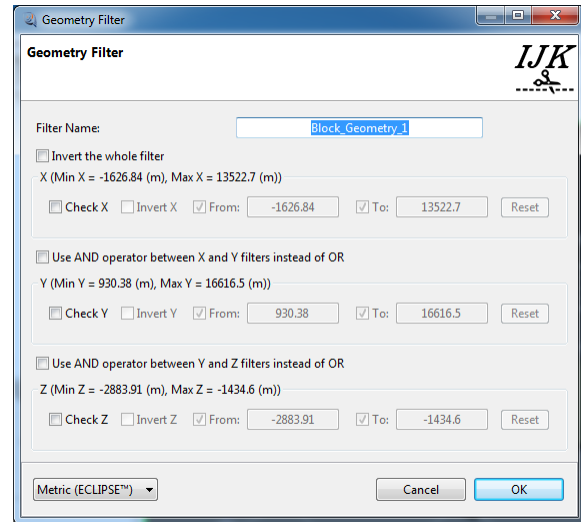
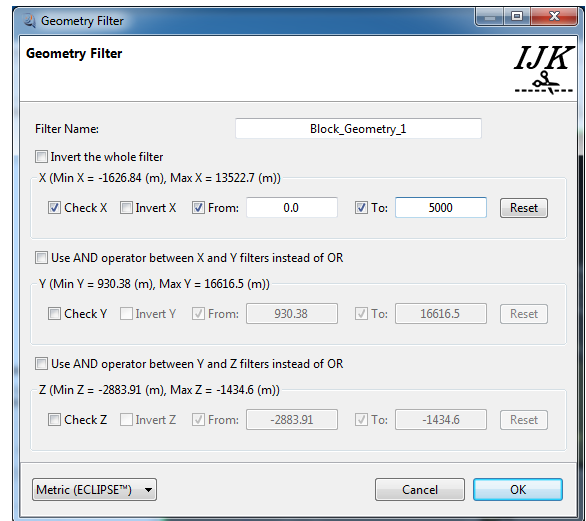
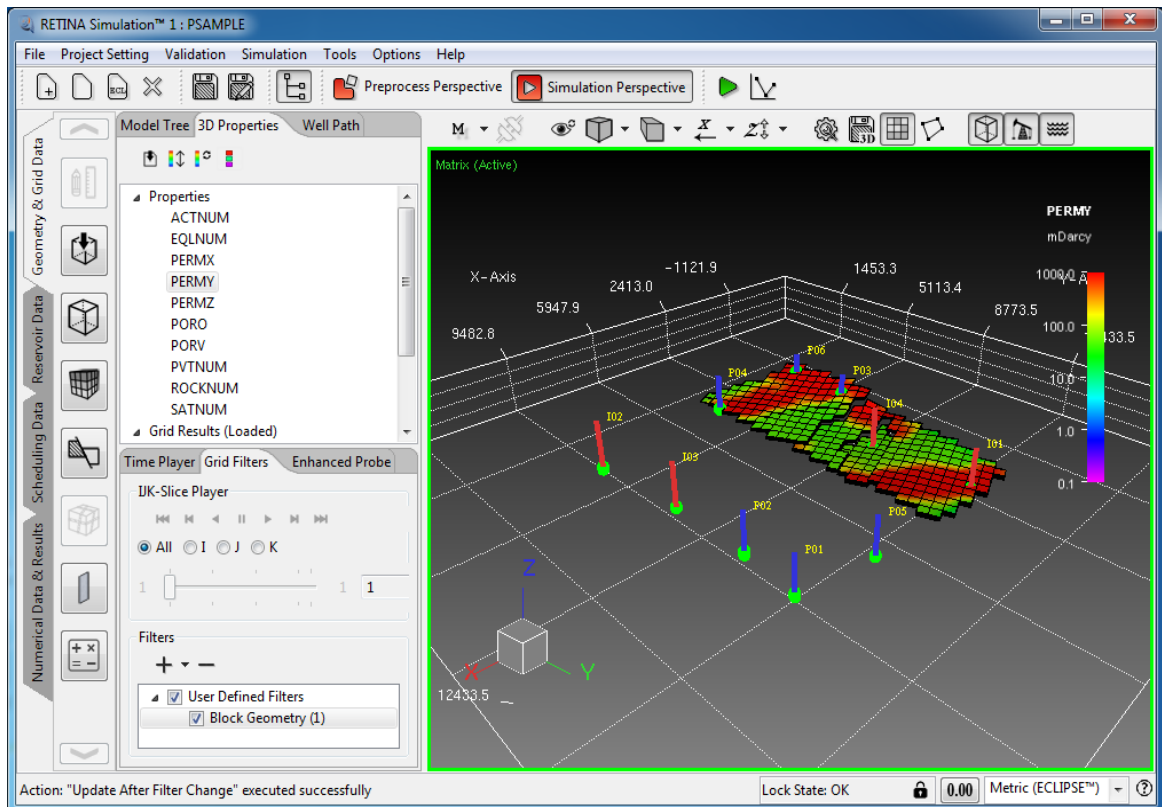
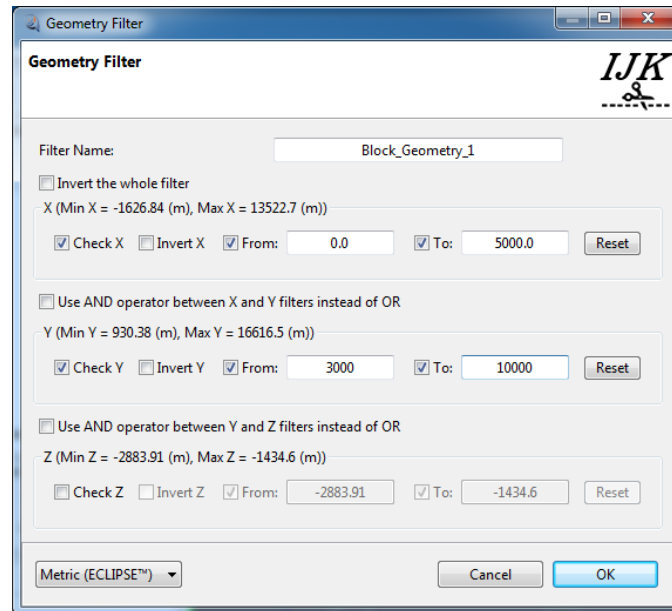

Figure 30 Adding Block Geometry Filter
Figure 31 Adding Block Geometry Filter from 0 to 5000m in “X” Direction
Figure 32 Applied Block Geometry Filter from 0 to 5000m in “X” Direction on 3D View
Figure 33 Adding Block Geometry Filter from 0 to 5000m in “X” Direction and from 3000 to 10000m in “Y” Direction
2. *Block Geometry Filter*: the dialog of the Figure 30 is displayed if user wants to add block geometry filter. Initially none of the boxes are checked which means no filter is added to 3D view. The name of the “Block_Geometry_##” is assigned to the defined block geometry filter, by default; this name is editable. For adding filter on each direction, user should just check the related box and enter the minimum and maximum coordinates in the specified direction. For example the Figure 31 displays the configurations for adding a filter from 0 to 5000 meter in the “X” direction. Clicking on the OK button, filter will be applied on 3D view (Figure 32). Note that the editing of the defined filter is allowed by double clicking on the added one in the Filters section. If user unchecks the “From” or “To” field values the minimum and maximum coordinate of the model in desired direction is assumed for them, respectively. User can define filters on two or three directions, for example the Figure 33 displays the filter configuration for 0 to 5000 m in “X” direction and 3000 to 10000 m in “Y” direction.